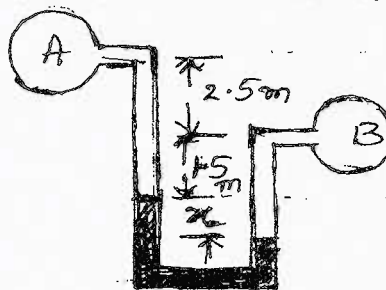

Fig.Q2(c)
c. Fig.Q2(c) shows a differential manometer connecting two points A and B. Pipe A contains carbon tetrachloride of specific gravity 1.594 under a pressure of 1.05 kgf/cm² and pipe B contains oil of specific gravity 0.8 under a pressure of 1.75 kgf/cm². If the manometer liquid is mercury, find the difference 'x' between the mercury levels.